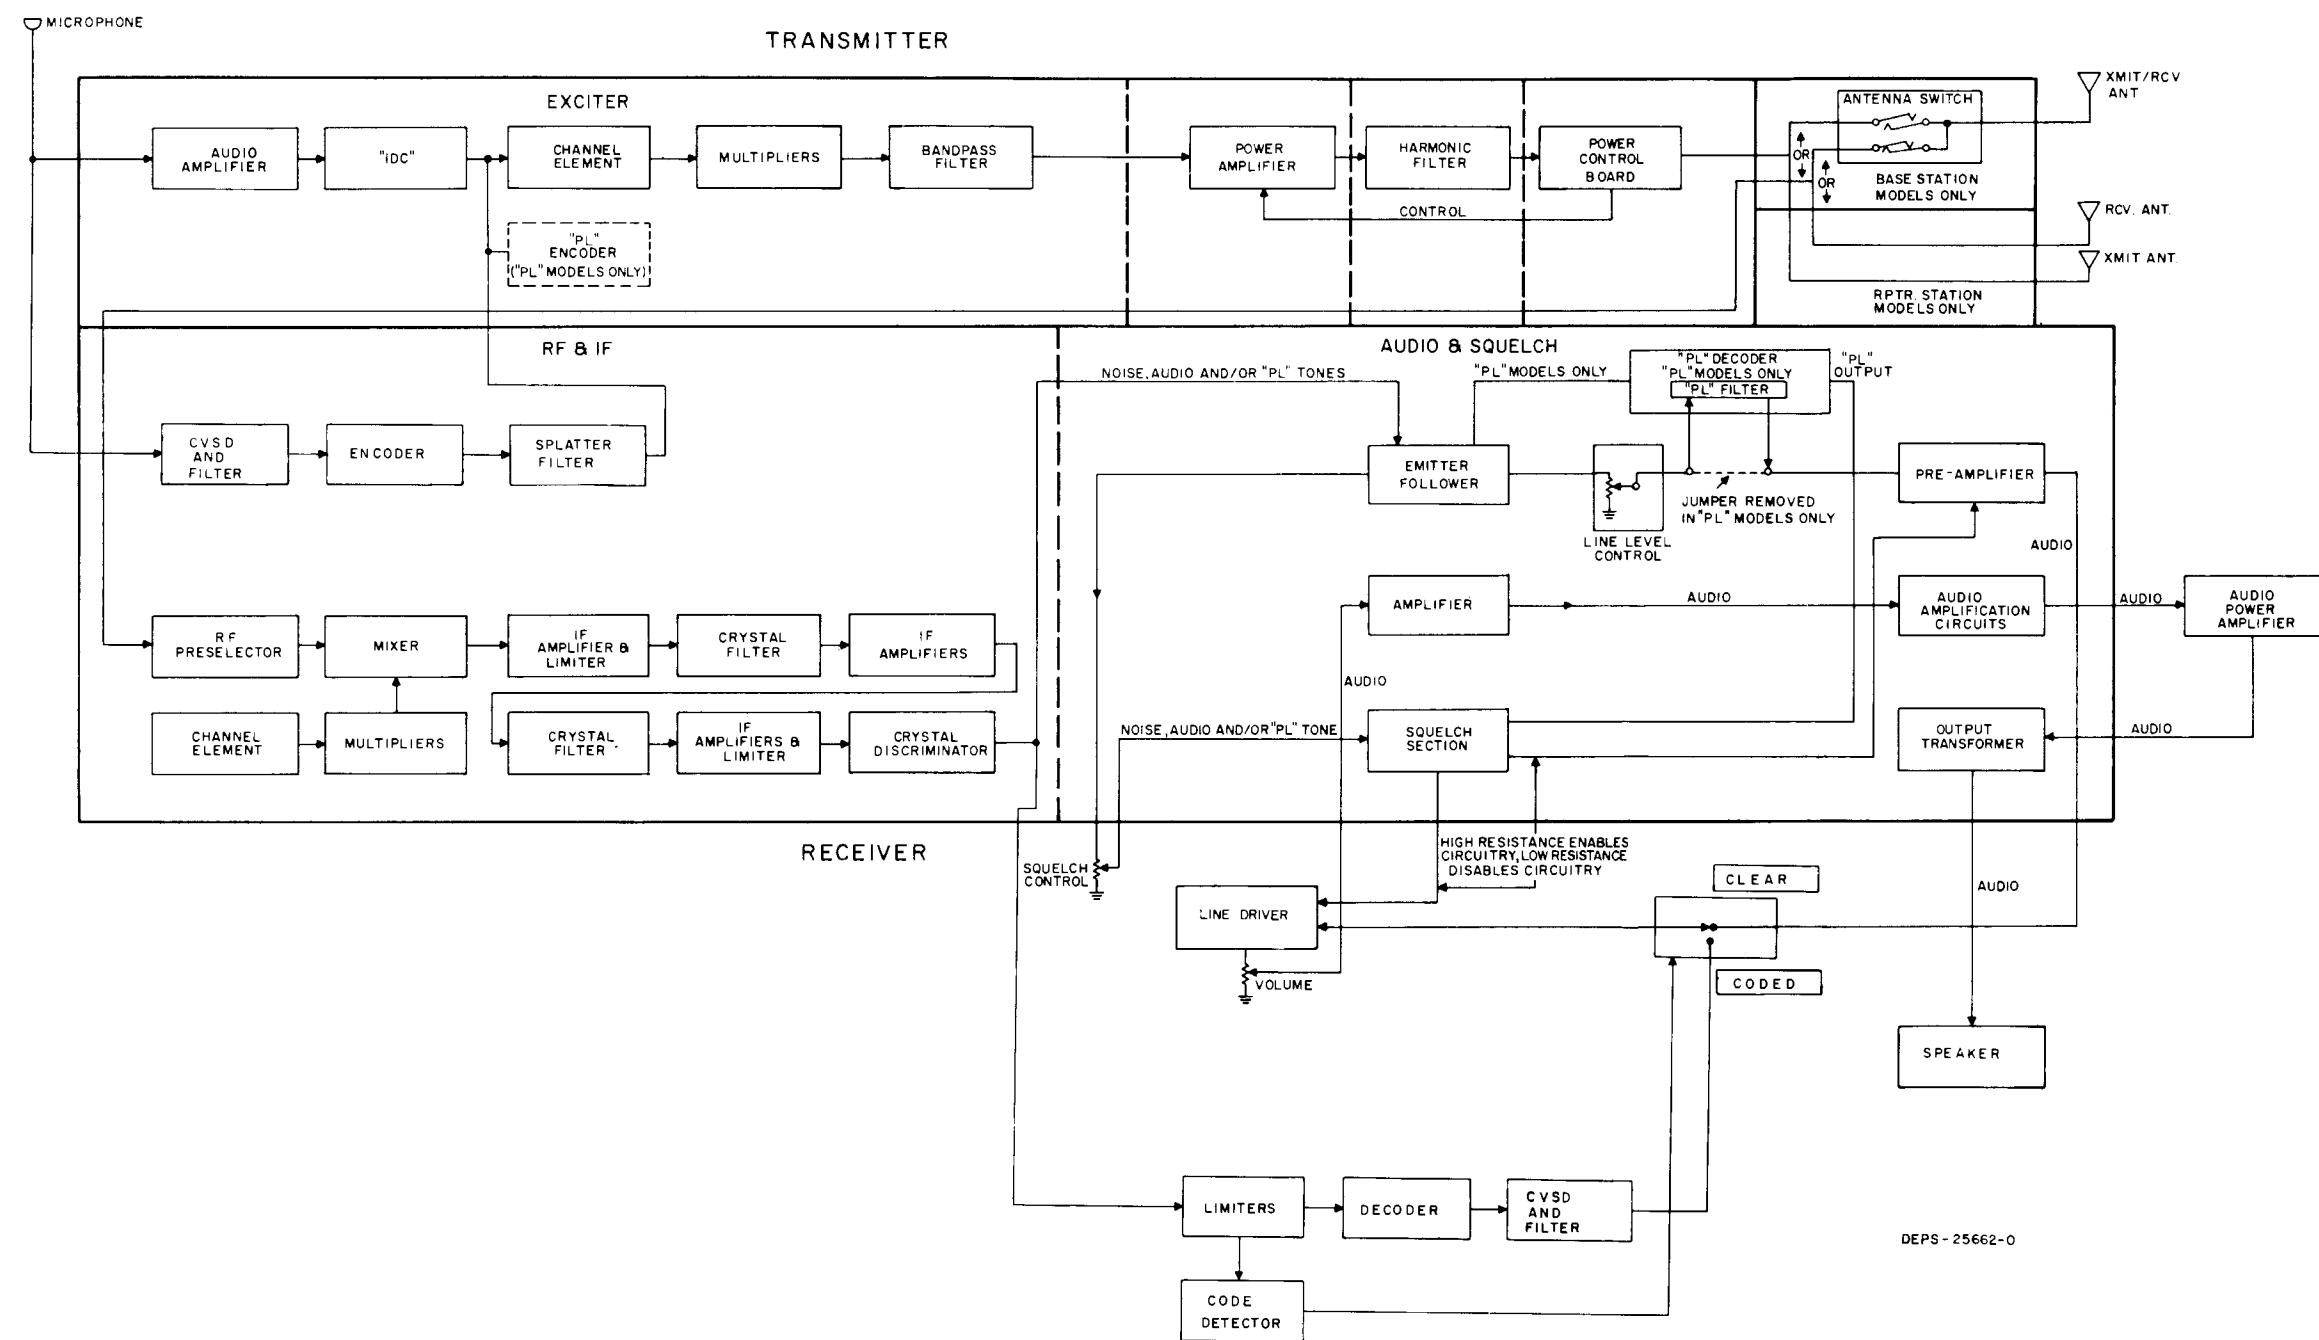

Figure 3. DVP Station Block Diagram
4.1 The receiver accepts rf carrier signals on a specific channel in the 132-174 MHz range. It provides clear voice audio in the 300 to 3000 Hz range and also digitally coded voice signals. Refer to Figure 3 for functional operation. The receiver consists of the following items: